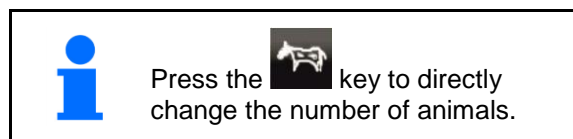

Fig. 200
2. Press the "Charging mode" key (1).
- Instead of the camera picture, the terminal displays a list of saved recipes (Fig. 200).